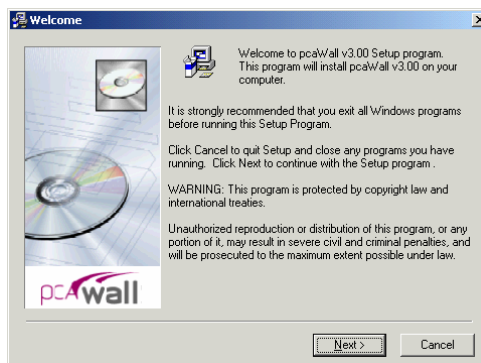

Figure 1-1. Beginning of the installation
3. The installation process starts by displaying the following window (Figure 1-1). Please read all the information. Then press the NEXT button. This will continue the installation process by installing license manager, an evaluation license, and the application software.